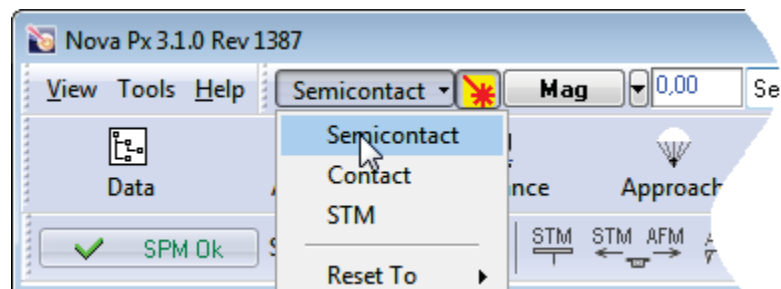

Fig. 13-36. Selecting the controller configuration
1. In the controller configuration drop-down list of the Nova PX program, select **Semiconduct** (Fig. 13-36).